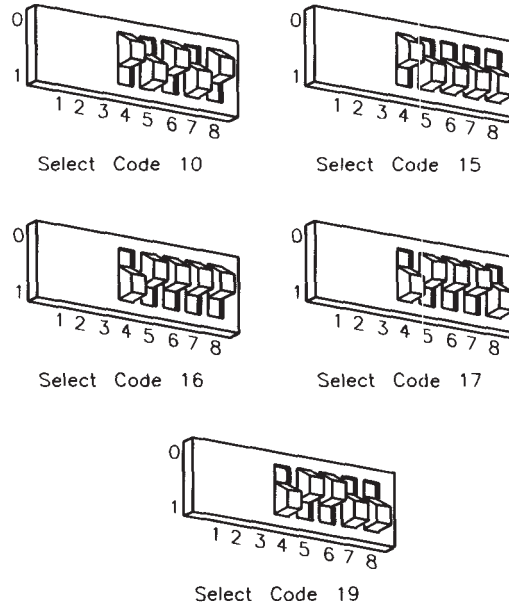

Figure 5-30.
- b. Set these switches to one of the five select codes given in Figure 5-30, unless you have used them elsewhere (check the Select Code Record on the Chapter 5, “Interface Cards” tab to see which ones you have used). Refer to the installation note that came with the interface if you need additional switch settings.